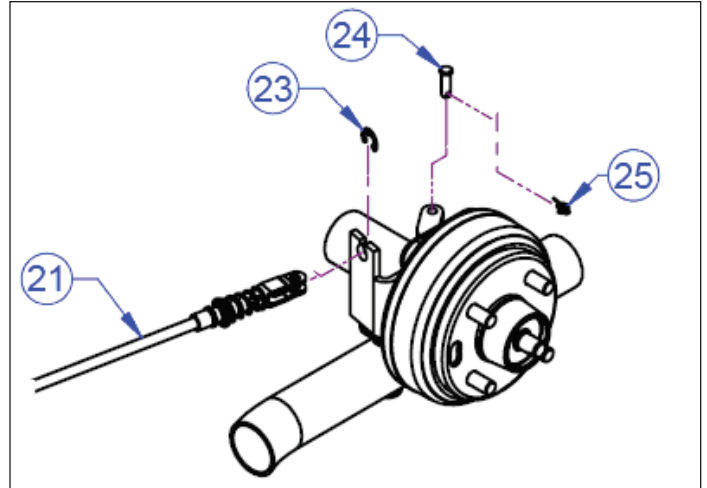

Figure 7-6. Brake Cable Attaching Hardware
5. See Figure 7-6. Remove cotter pins (25), clevis pins (24) and e-rings (23).
6. Disconnect brake cables (21, Figure 7-6) from brake assemblies on the rear axle.